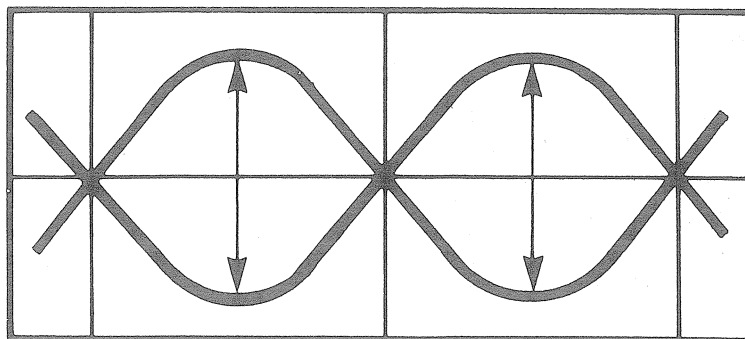

FIGURE 4-11. RADIAL HEAD CHECK
5. Observe waveform. Lobes should be within 20% of each other (refer to Figure 4-11).
8. Observe waveform; it should be distinct lobe patterns; refer to Figure 4-11.